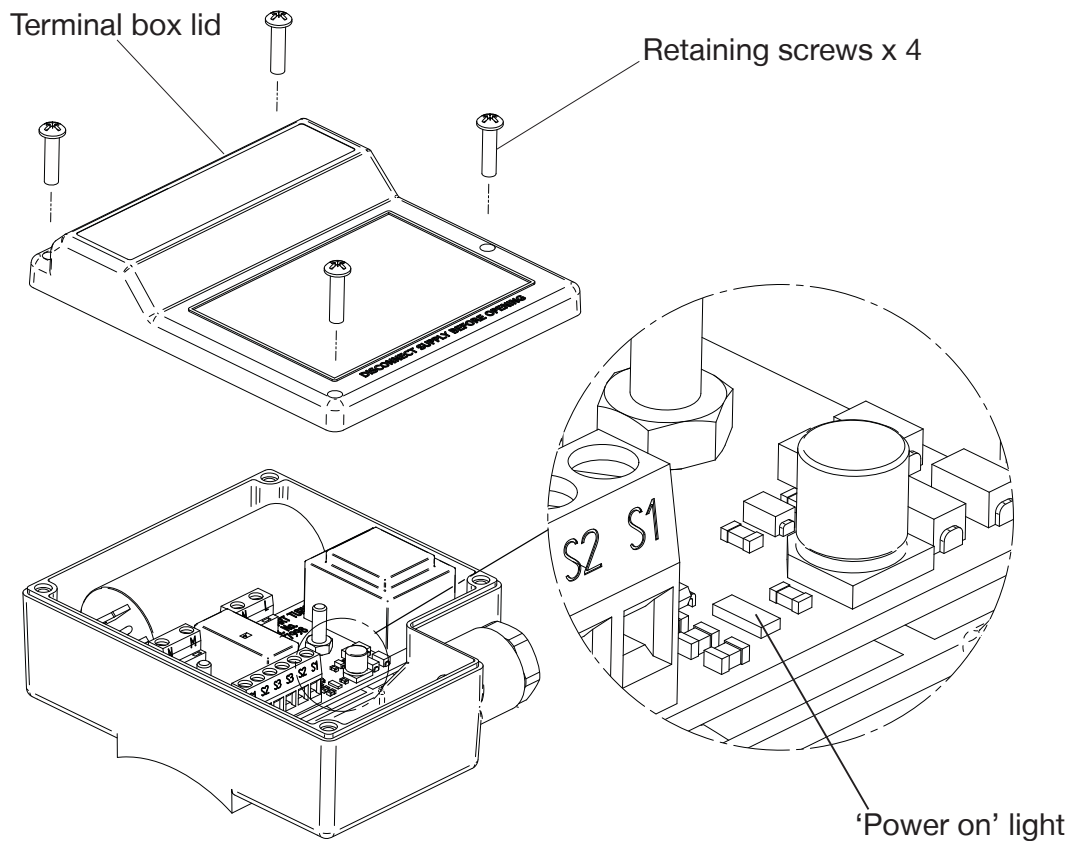

Fig. 18 Wiring removed for clarity
- Remove the four screws retaining the terminal box lid (Fig. 18).